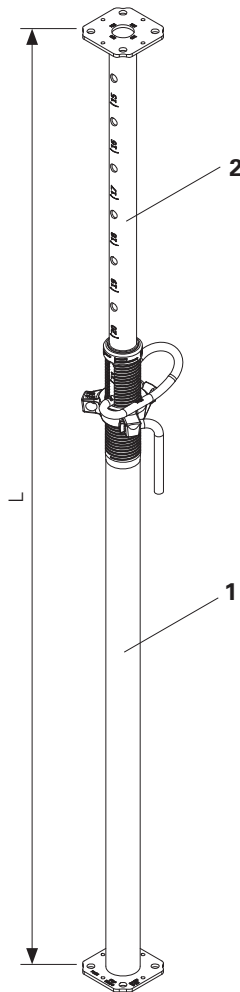

Fig. A1.01
1. Extend inner tube (2) of the slab prop to the required height marking (7). (Fig. A1.01 + A1.01a)
2. Turn the inner tube so that the hole in the elongated hole (1b) of the outer tube (1) is visible. (Fig. A1.01 + A1.01a)